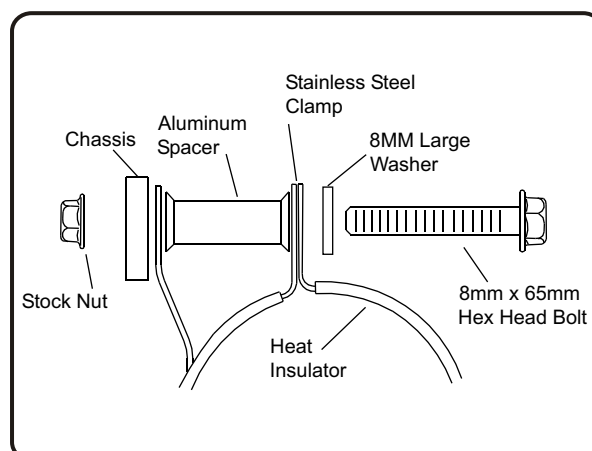

Fig. 1
- 1 Remove right rear number plate and header heat shield. (See Fig. 1 for fastener locations.)